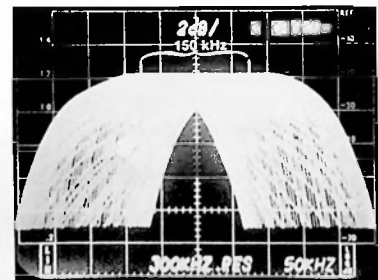

Fig. 28. Self-Sweeping an Fm Transmitter
- A display of the transmitter bandpass will be obtained on the spectrum analyzer (figure 28). The tuning should be flat across the normal 150 kHz bandwidth of the transmitter for optimum stereo and am noise performance. Adjustments should be made to insure flat response.